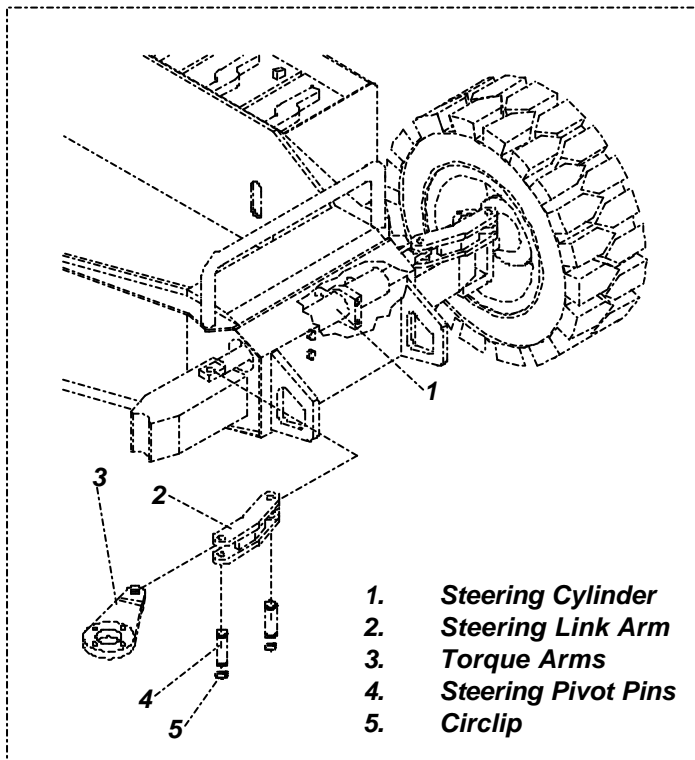

Figure 4-19: Steer Cylinder
4.17 Steering Cylinder (Figure 4-19)